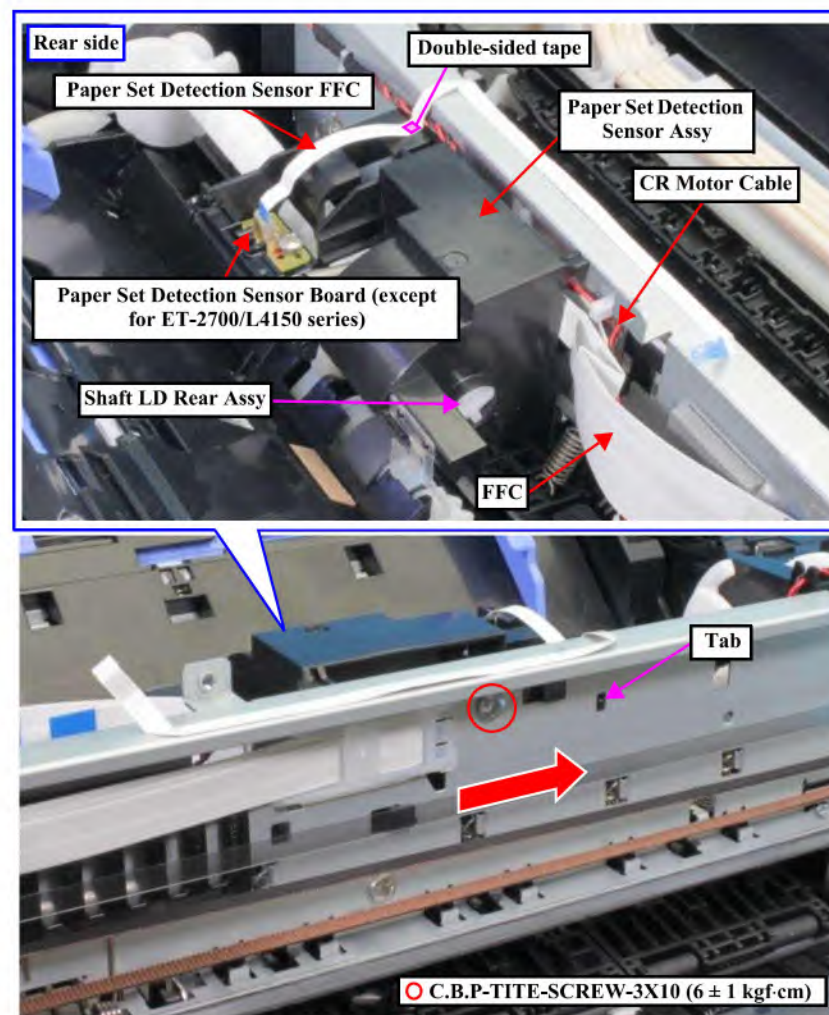

Figure 3-48. Removing the Paper Set Detection Sensor Assy
- Set the Shaft LD Rear Assy to the shaft hole on the Paper Set Detection Sensor Assy. (Figure 3-48)
- When attaching the Paper Set Detection Sensor Assy, be careful not to let the CR motor cable and FFCs get caught between parts. (Figure 3-48)